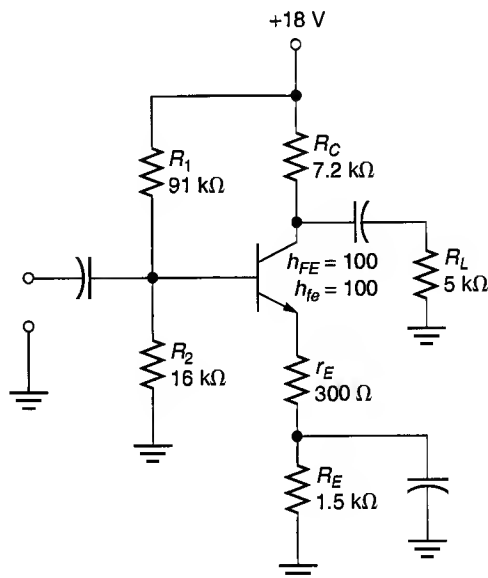

FIGURE 9.37
52. Determine the value of A_v for the amplifier in Figure 9.37.